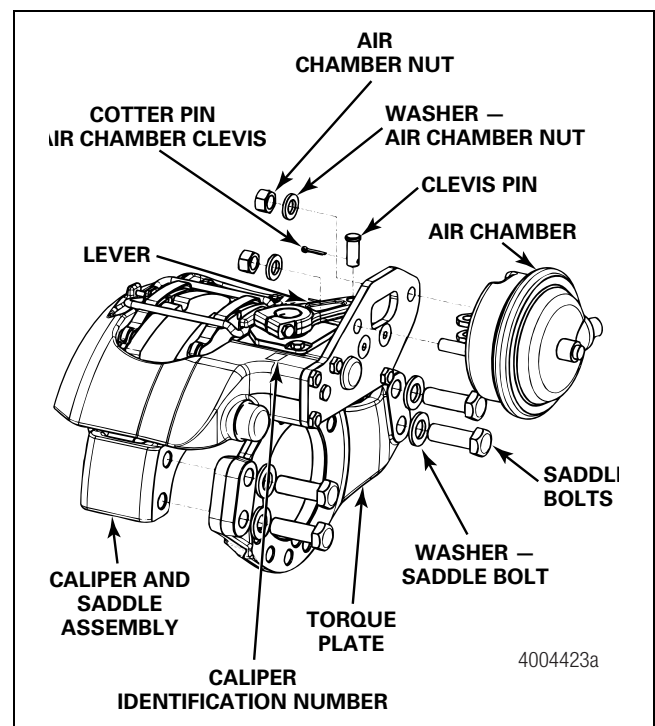

Figure 14
3. Remove the four saddle bolts. Figure 14.